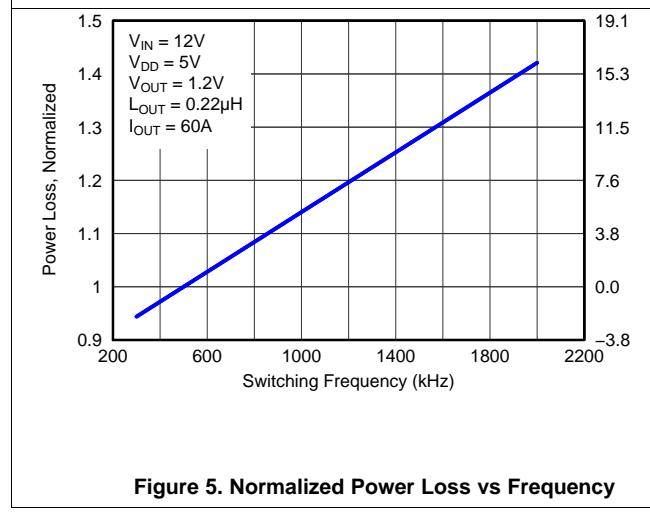

Figure 5. Normalized Power Loss vs Frequency
- Normalized Power Loss for switching frequency \approx 1.08 (Figure 5)
- SOA adjustment for switching frequency \approx 3.2°C (Figure 5)